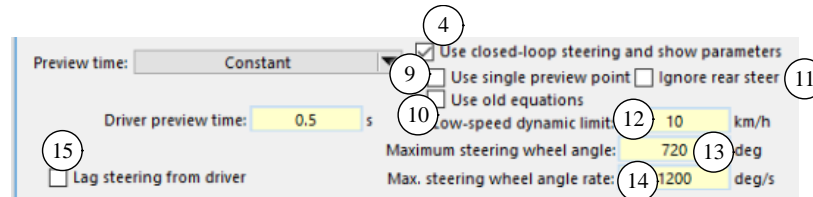

Figure 22. More options are shown with multiple preview points.
- ⑨ Checkbox to use a single preview point. This chooses between approaches for calculating steer angle.
2. When not checked ( $OPT\_DM = 1$  or  $2$ ), the steering control is calculated using a built-in linear dynamic vehicle model to predict the steering that matches the target path for ten points covering the distance  $L_{prev}$  in front of DM reference point, as described earlier (page 19). In this case, more controls are shown: ⑩, ⑪, and ⑮ (Figure 22).
- ⑬ Maximum steering wheel angle for the driver model (keyword = A\_SW\_MAX\_DM). This specifies the maximum angle that the steering wheel can be turned in either direction from center.
- ⑭ Maximum steering wheel angle rate (keyword = AV\_SW\_MAX\_DM). This specifies the maximum angular rate at which the steering wheel can be turned in either direction by the driver model.
- ⑮ Checkbox to include driver lag. This control is visible only when the single-point box ⑨ is unchecked (Figure 22). When the driver lag box is checked, an adjacent yellow field is shown for driver lag (keyword = TLAG\_DM). Steering wheel angles generated by the driver model are delayed by this amount of time to simulate the neuromuscular delay in people. A realistic value is about 0.15 seconds. Larger values can be used to simulate impaired drivers.